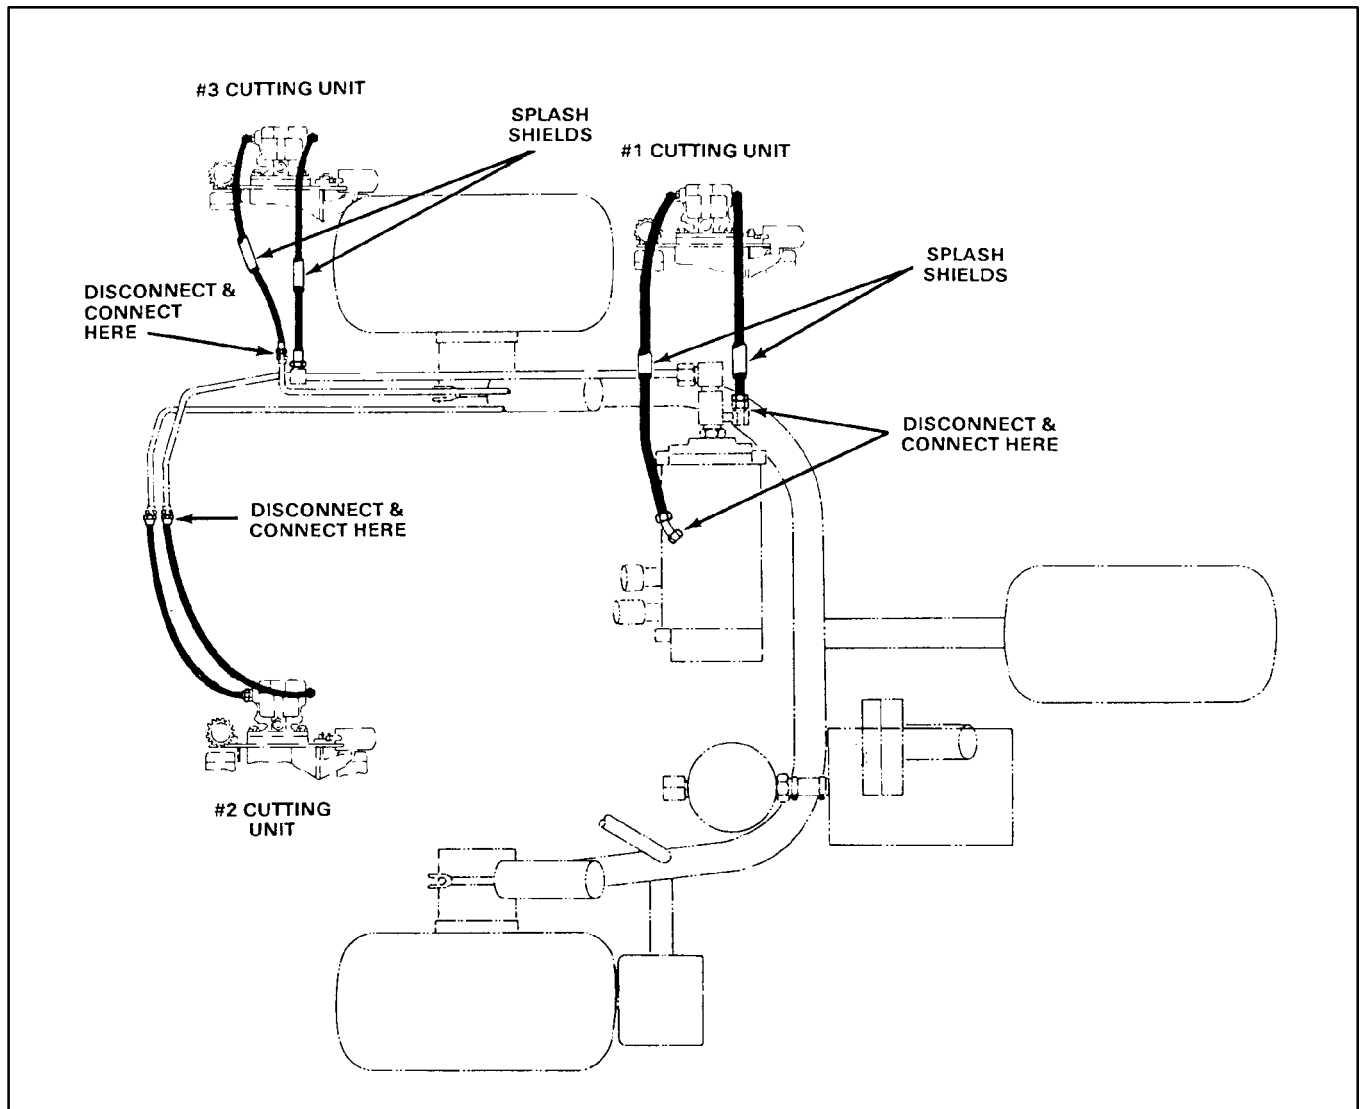

Figure 5
5. Disconnect pressure and return hoses from machines at locations shown in figure 5.